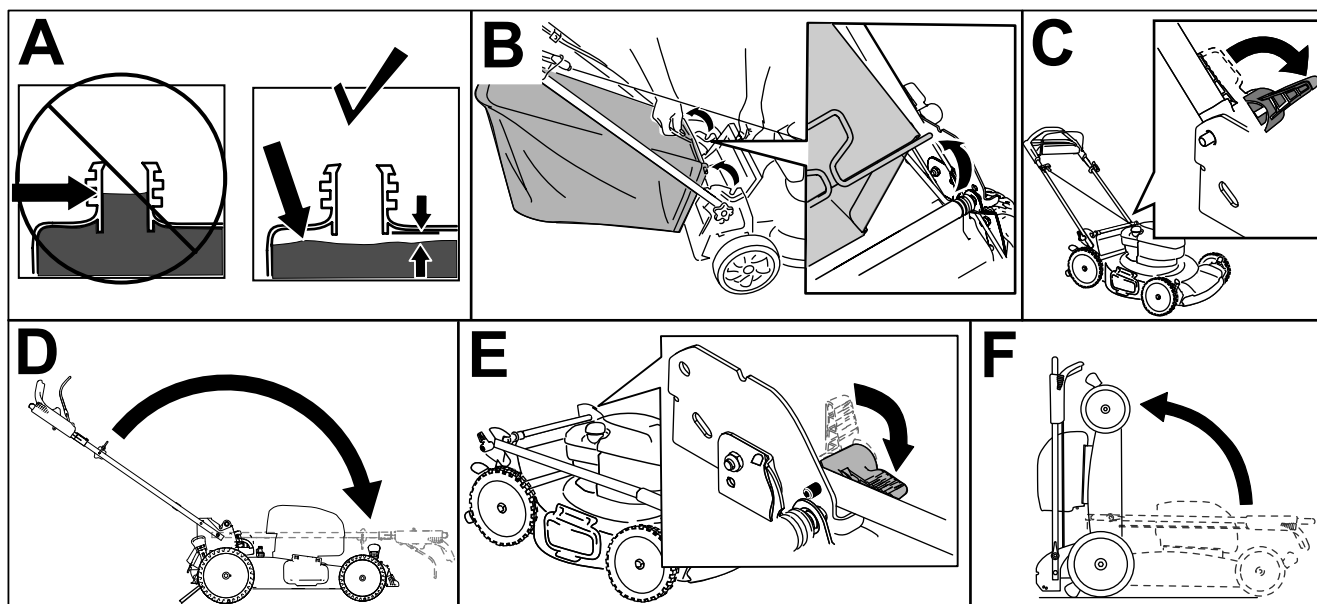

Figure 32
**Note:** If the level of fuel in the fuel tank is too high, drain the fuel from the fuel tank into an approved fuel container until it is at or below the level recommended by the engine manufacturer (A of Figure 32).
2. If the grass bag is on the machine, remove it (B of Figure 32).
3. Disengage the handle locks (C of Figure 32).
4. Fold the handle fully forward (D of Figure 32).
5. Engage the handle locks (E of Figure 32).
6. Lift the front of the machine by the handle and move it into a storage space (F of Figure 32).